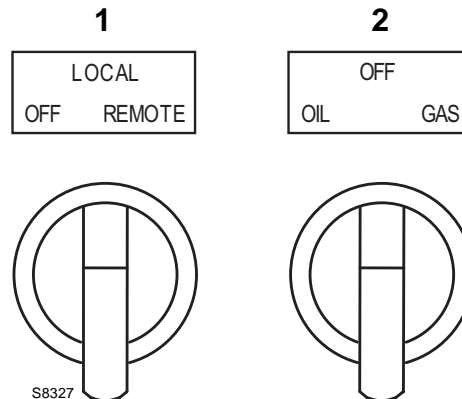

Fig. 45
Set switch 1)(Fig. 45) to "LOCAL".
Set switch 2)(Fig. 45) to "GAS".
- 1 using switch 2)(Fig. 45);
By setting switch 1)(Fig. 45), to "remote" you activate the remote fuel selection facility.